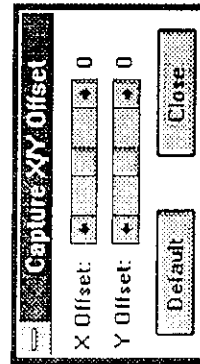

Figure 3-24.
- SELECT "Capture X/Y Offset" to adjust the color within the video window if the color does not appear correct (see Figure 3-24).